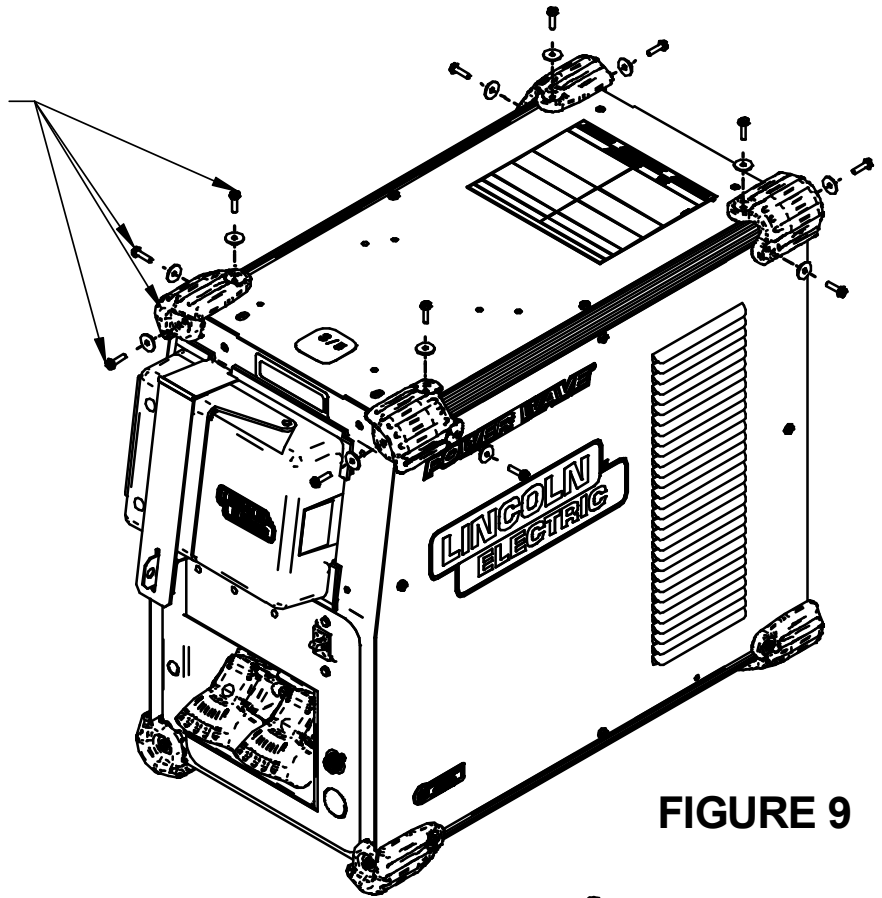

FIGURE 9
11. Install the top four Corner Caps using the hardware removed from mounting the corner caps in Step 4, using a 5/16" nut driver or other suitable tool (**Figure 9**).